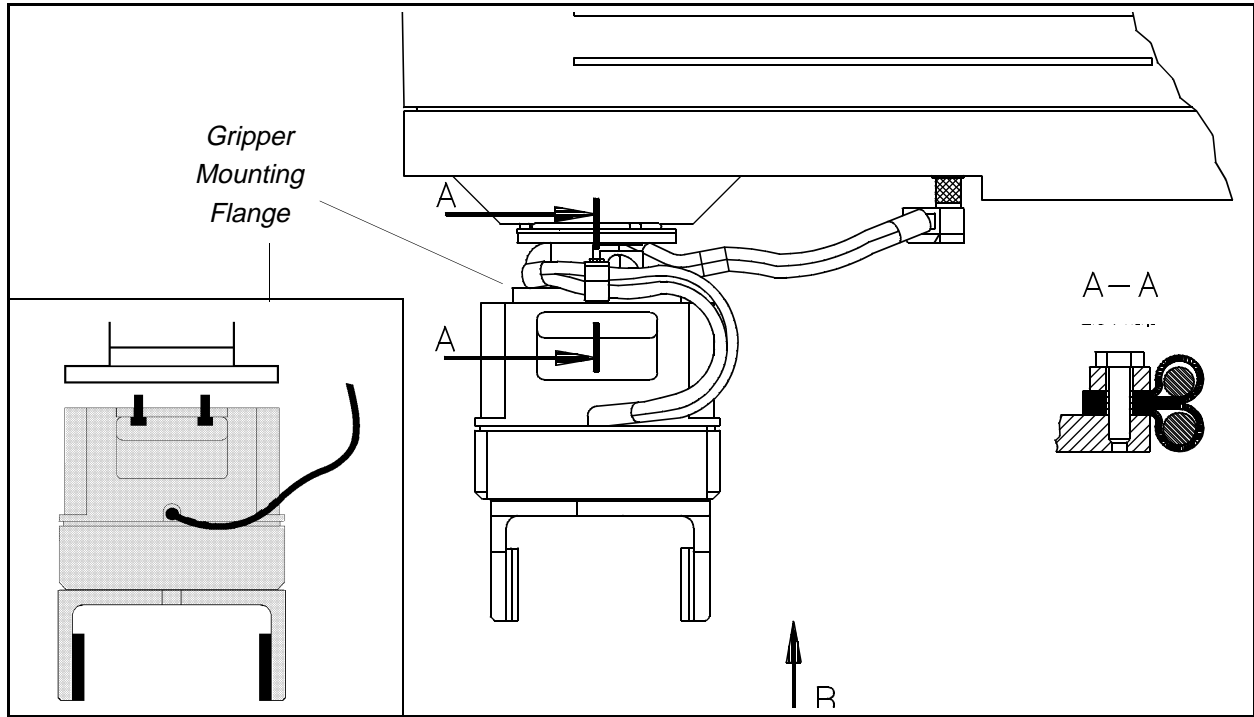
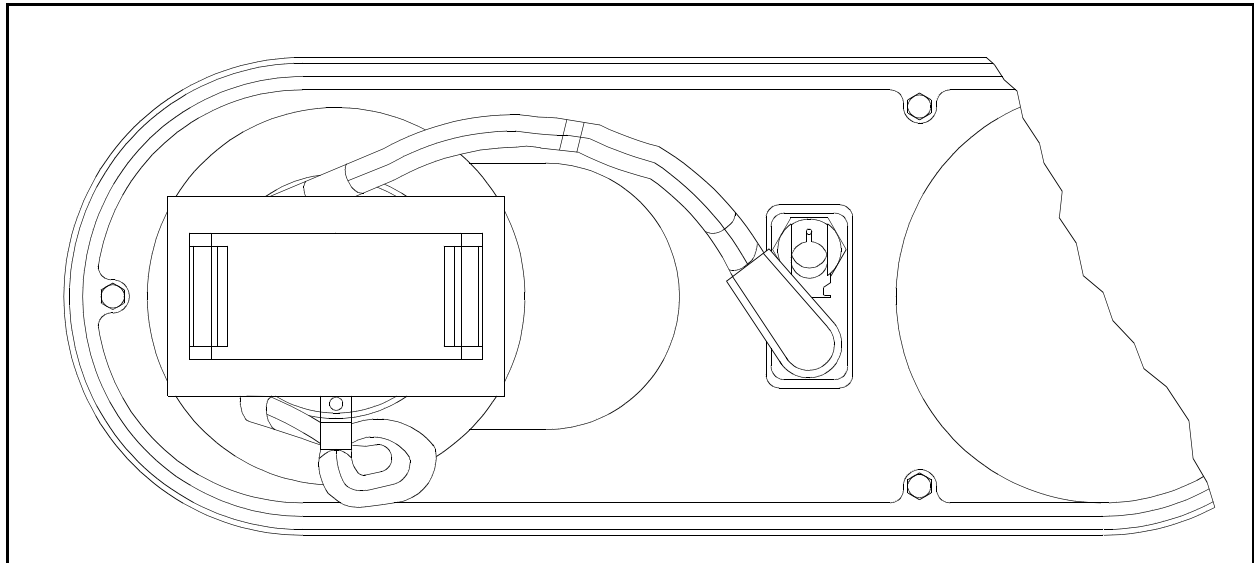

Figure 7: Attaching Gripper to SCORA-ER 14
Figure 8: Connecting Gripper Cable to SCORA-ER 14
5. Using four M4x10 socket screws and a 3mm Allen key (hex wrench), attach the gripper to the gripper mounting flange at the end of the robot arm, as shown in the inset in Figure 7.
6. Connect the gripper cable to the electrical connector on the robot arm. Make sure the connector is oriented as shown in Figure 7.
7. Make sure the gripper cable is positioned as shown in both Figure 7 and Figure 8.
*Refer to A-A in Figure 7.* Fit the two cable clamps onto the two gripper cables. Place the clamps on the flange. Fit the spacer on the cable clamp screw, and then tighten the screw onto the flange.
*At the end of each work session (before turning off the controller), or before homing the robot, make sure the gripper's position is as shown in Figure 8.*